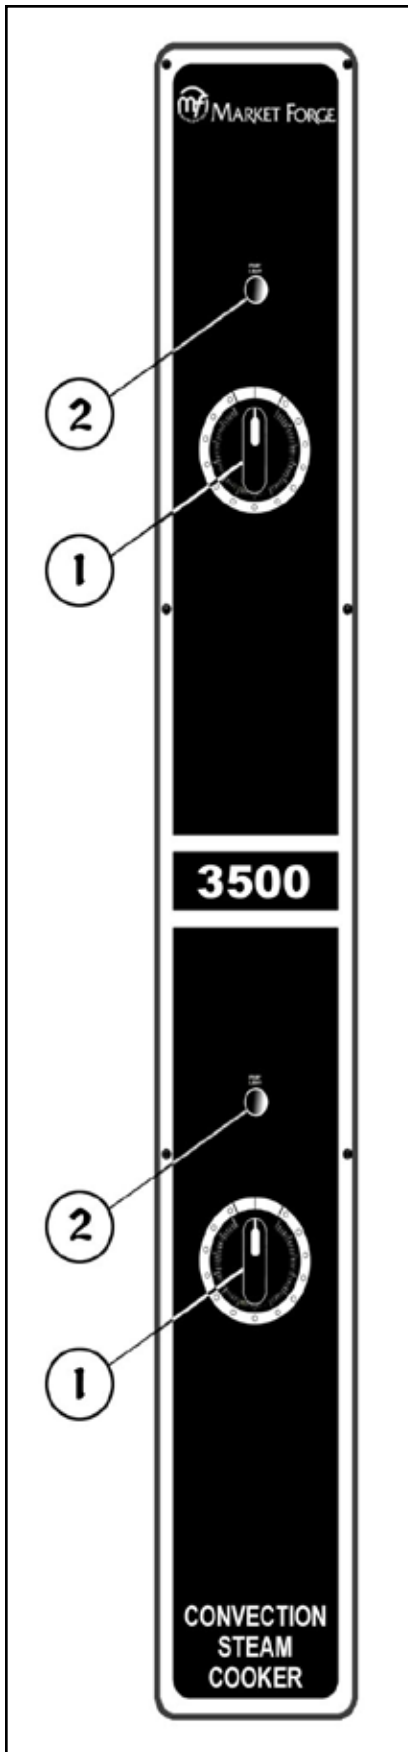

Fig. 1 Control Panel
Before making this check-out, the operator must be thoroughly familiar with the operating procedures on page 3 and with the function of each control described in Table 1 on page 5. Reference Figure 1, also on page 5 for identification of controls required in the following procedures.
2. Cooker timers for both compartments (Figure 1, page 5) are in the OFF position.
The controls and indicators required to operate the Pressureless Steam Cooker are listed in Table 1 on page 5, together with a short functional description of each. Figure 1 on page 5 shows the physical location of each control and indicator.
CONTROLS & INDICATORS (Refer to Fig. 1)